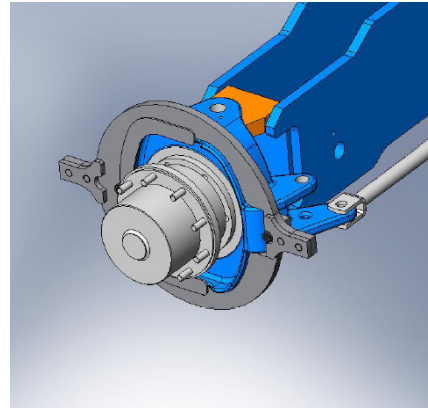

Fig. 1
- a. The Hammer Limiter Brackets for the front come in **left hand** and **right hand**, **Fig. 1. (RH Shown)**
- c. Mount the **U** shaped mount block using (1) 5/8-11NC x 1.5 cap screw. **Fig. 1 & 2**
- e. Mount the Limiter Shims to the front of the Hammer Limiter using (2) 3/4-10NC x 1.25 GR 8 plated bolts per Shim. **Fig. 1**